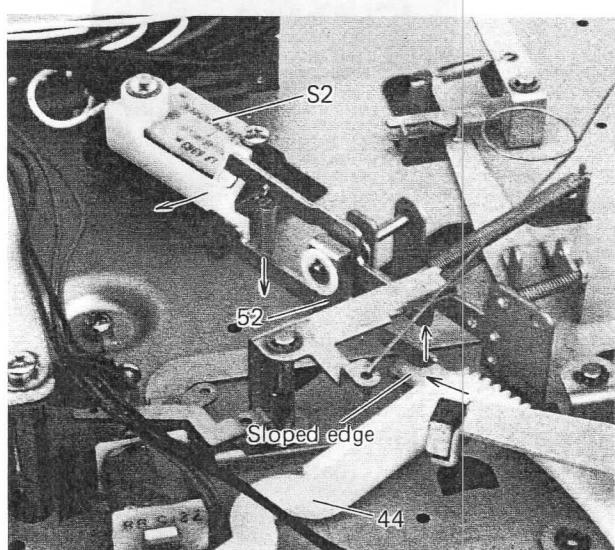

Figure 15
- (9) At the Rest position, another non/geared position of the Main Gear meets the Motor Gear and it stops turning. At the same time the sloped edge of the Gear (44) pushes up the lower Switch Lever (52) to turn OFF the Microswitch (S2). The Motor stops with the Turntable. (Figure 15)